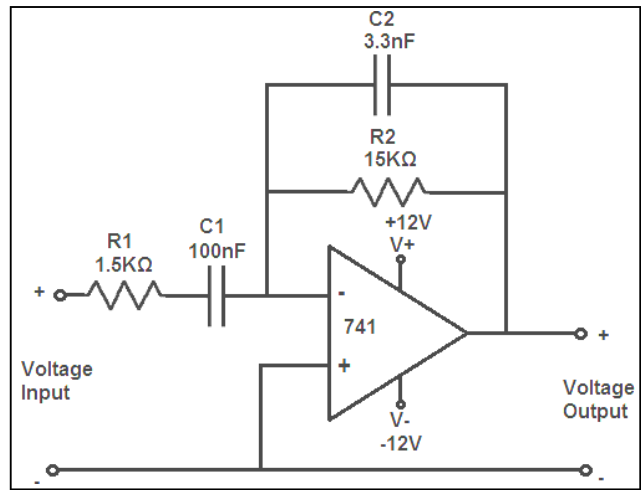

Fig 3 First Order Band Pass Filter Circuit
1. Connections are made as per the circuit diagrams shown in Fig 3.